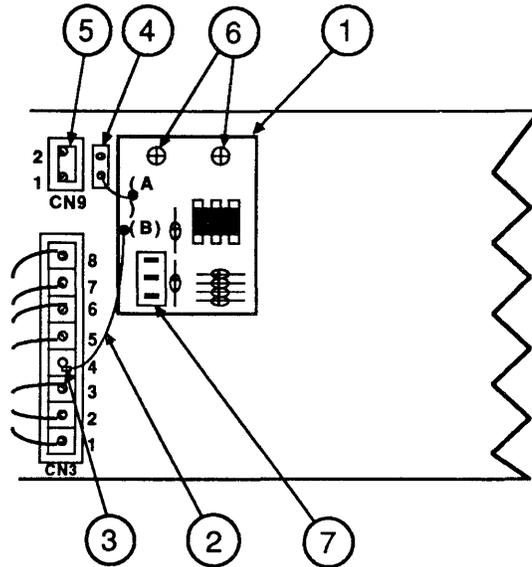

FIGURE 24
- Before attaching the daughter board and bracket from the kit (Figure 24, #1), plug the yellow wire (Figure 24, #2) from the daughter board into the open slot at position 4 of female connector CN3 (Figure 24, #3). Be sure the connector from this wire enters the slot with its two tiny metal flanges facing away from the board.
- Install the 2-pin connector (Figure 24, #4) from the daughter board into the main logic board at location CN9 (Figure 24, #5).
- Match the screw holes (Figure 24, #6) on the daughter board with the holes on the installation bracket, and mount the board onto the bracket.